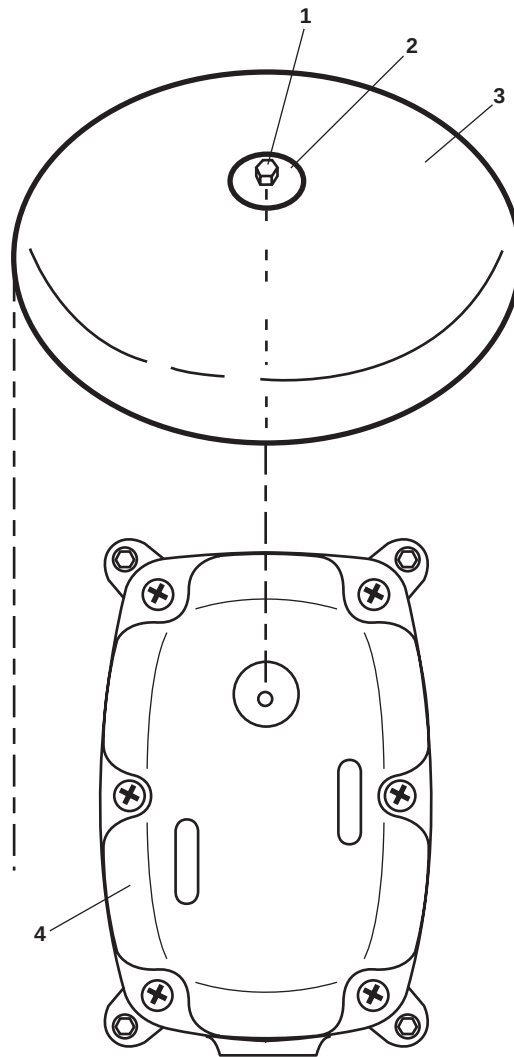

Figure 1. General Alarm Bell Assembly
1. Remove the bolt (figure 1, item 1) and washer (figure 1, item 2).
2. Remove the gong (figure 1, item 3) from the bell assembly (figure 1, item 4).
1. Install the gong (figure 1, item 3) on the bell assembly (figure 1, item 4), securing it with the bolt (figure 1, item 1) and washer (figure 1, item 2).